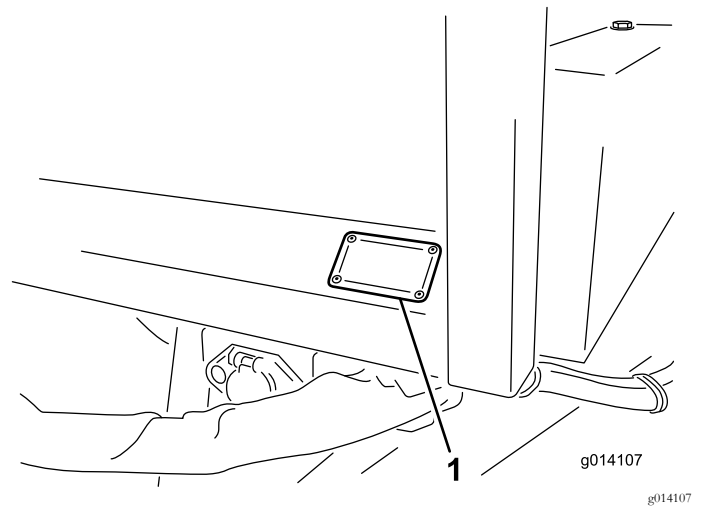

Figure 23
14. Install decal 136-7585 near the serial tag on the front left of the unit (Figure 23).